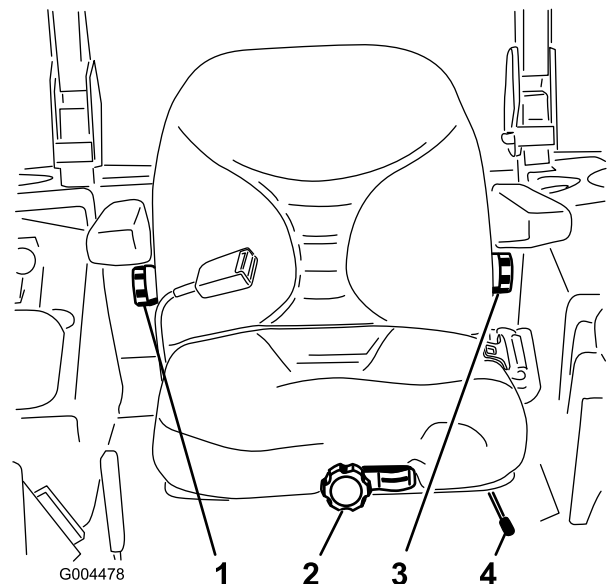

Figure 29
1. To adjust, move the lever sideways to unlock the seat (Figure 29).
Without sitting on the seat, turn the knob in front either direction to provide the best comfort (Figure 29).
To adjust it, turn the knob, under the right-side arm rest, in either direction to provide the best comfort (Figure 29).
To adjust it, turn the knob, under the left-side arm rest, in either direction to provide the best comfort (Figure 29).